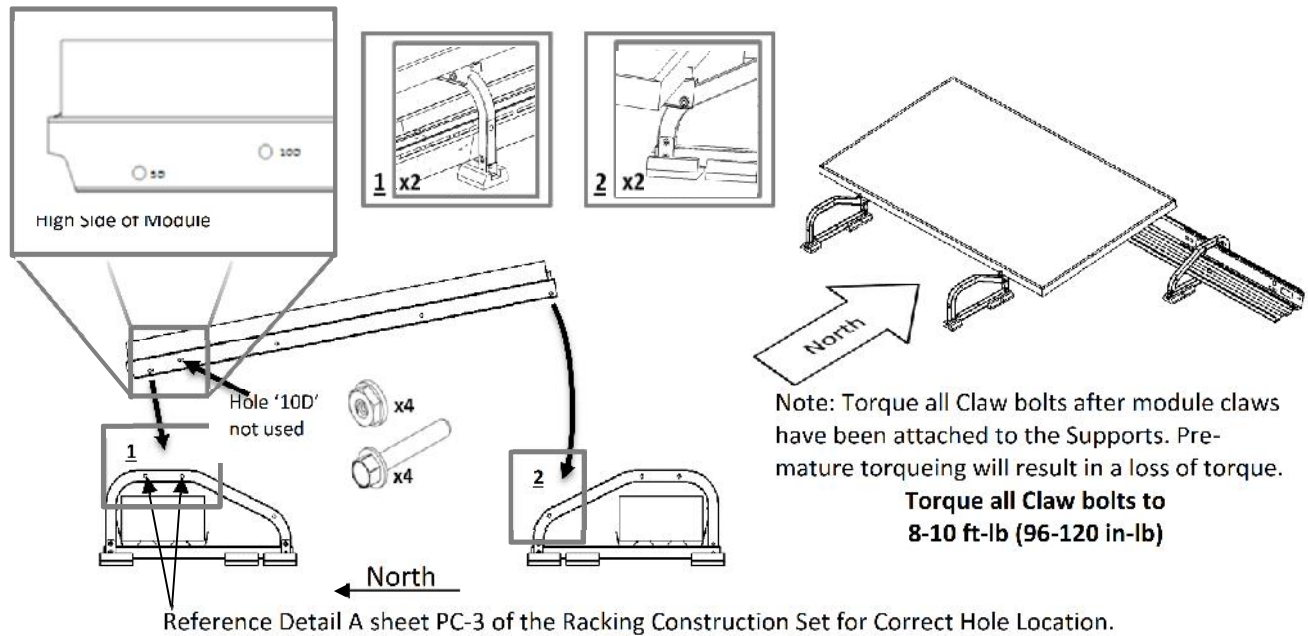

Figure 6 Attach Module to Supports
3.12.Carry the module (with Claws installed) to the north-east (or west) corner and align the high side Claw holes, identified as “5D”, (Figure 6) with the Support hole found on top of the north Supports. Reference Detail A on sheet PC-3 of the Racking Construction Set to determine which Support hole is used for northern rows as well as all other rows.
3.13.Follow Figure 6 to align Claws over the north Support mounting holes. Insert bolts through Claw and Support mounting hole. Finger-tighten nuts onto bolts.